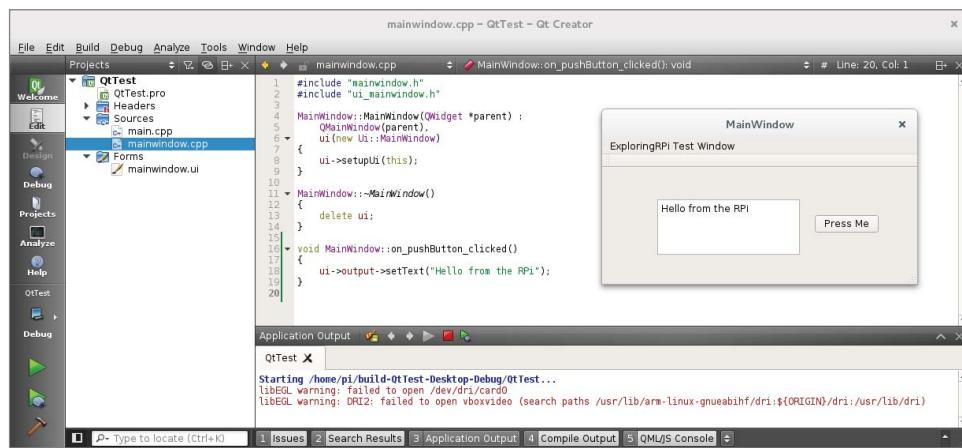

Figure 14-9: Qt Creator IDE test application
- Right-click on the button and use the Change text option to retitle the button to “Press Me.” Right-click the button again and choose Go to Slot and then pick a signal (for example `clicked()`). This creates a new function in the `mainwindow.cpp` file called `on_pushButton_clicked()`. See Figure 14-9.
The application can be executed by clicking the play button on the bottom-left side of Figure 14-9.⁵ The application window appears as in Figure 14-9. When the Press Me button is clicked, the text “Hello from the RPi” appears in the `output` `QTextEdit` component.